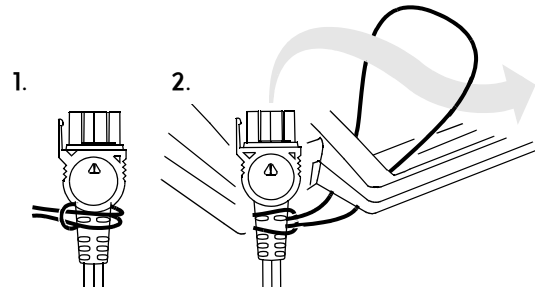

Figure C-2 Attaching lanyard
- 1 Loop the lanyard around the AED connector-end of the cable (see Figure C-2).
- 2 Loop the defibrillation cable through the lanyard and around the AED handle (see Figure C-2).